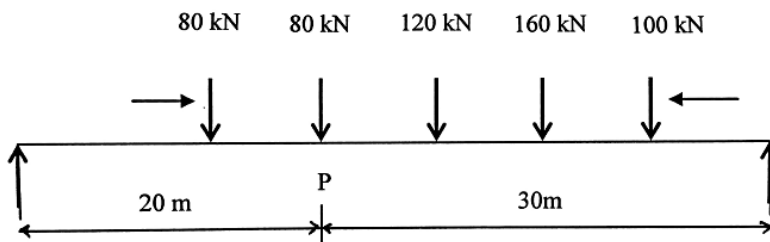

Fig.6
Q.8 For the span shown in figure 6, obtain bending moment at section P, 20m from A due to loads in the position indicated. Also determine position and value of maximum bending moment.